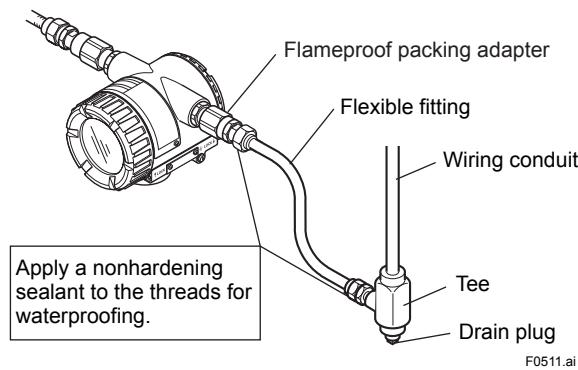

Figure 5.11 Typical Cable Wiring Using Flameproof Packing Adapter
■ Wiring cable through flameproof packing adapter for only TIIS flameproof type (see Figure 5.11)